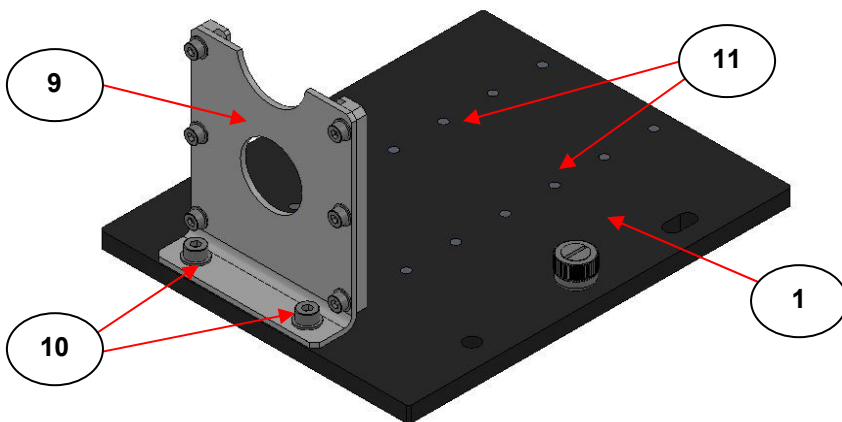

Fig 2. 3" x 2" Slide Mount Adapter Baseplate
The 3" x 2" Slide Mount Adapter Baseplate P/N GS16300 carries a 3" x 2" slide mount assembly (9) which is attached to the baseplate (1) by two fixing M4 X 8mm cap head screws (10). (See Fig 2).
There are eight pairs of tapped fixing holes (11) on the baseplate (1) and the slide mount (9) is fixed, when the baseplate is supplied as new, to the first pair of holes (11) by the screws (10) on the left hand side as seen from Fig 2. To move the slide mount (9) to a different position for optimum beam focus positioning of an accessory when installed into the spectrometer, the two screws (10) are undone and the slide mount (9) is refitted into position using the most appropriate set of holes by retightening of the screws (10).